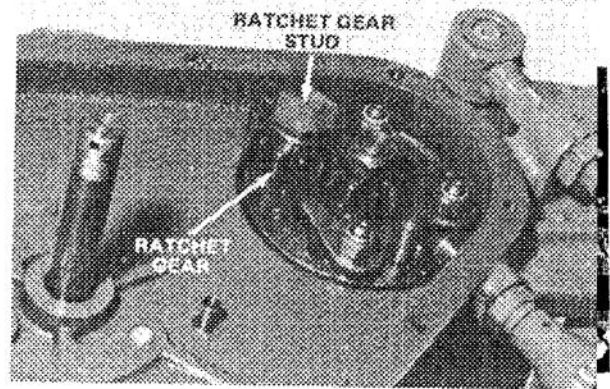

Figure 26
9. To prevent the reel from turning, place wooden block between reel blades and axle shaft. Using a socket wrench, remove ratchet gear stud securing ratchet gear (Fig. 26). Remove left-hand ratchet gear stud by rotating it clockwise. Remove right-hand ratchet gear stud by rotating it counterclockwise. Removal of the ratchet gear stud will free ratchet gear (Fig. 26).